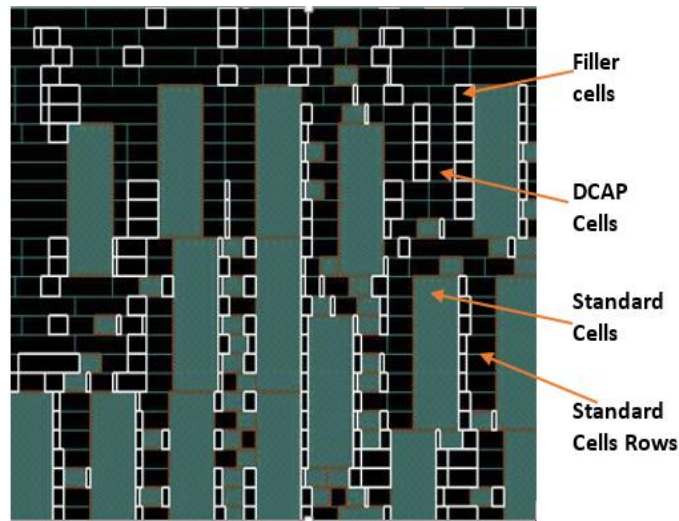

fig2: Filler cells, Decap cells
- These are typically poly gate transistors where source and drain are connected to the ground rails and the gate is connected to the power rails. (**fig2**)